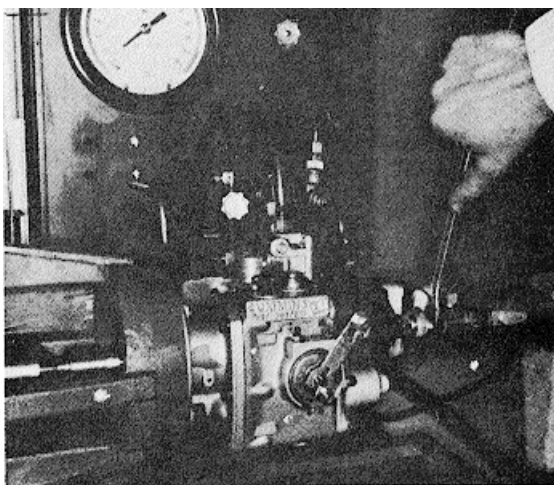

Fig 5-1-6, F5102 Connect gear pump suction line
4. Squirt some clean test oil into the gear pump inlet hole, so pump will pick up faster, then connect suction line. Fig. 5-1-6.